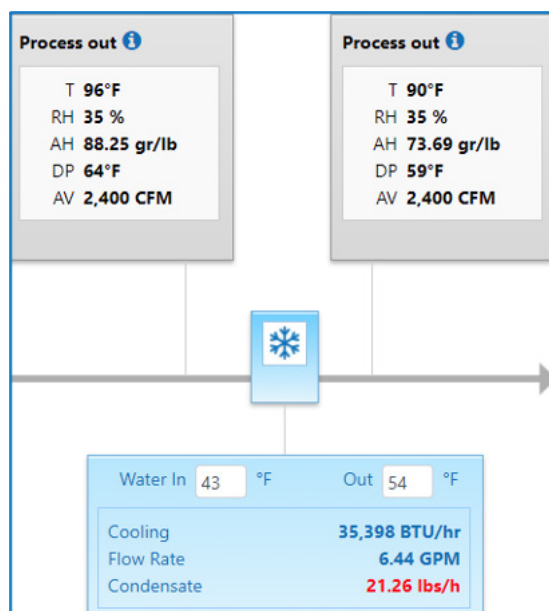

Fig. 4: Case of condensate generated on the post-cooling coil
- If condensate is generated on the post-cooling coil, the condensate value will be displayed in RED (see Fig. 4), and a warning message will inform the user to lower the Process In temperature or select a larger unit.